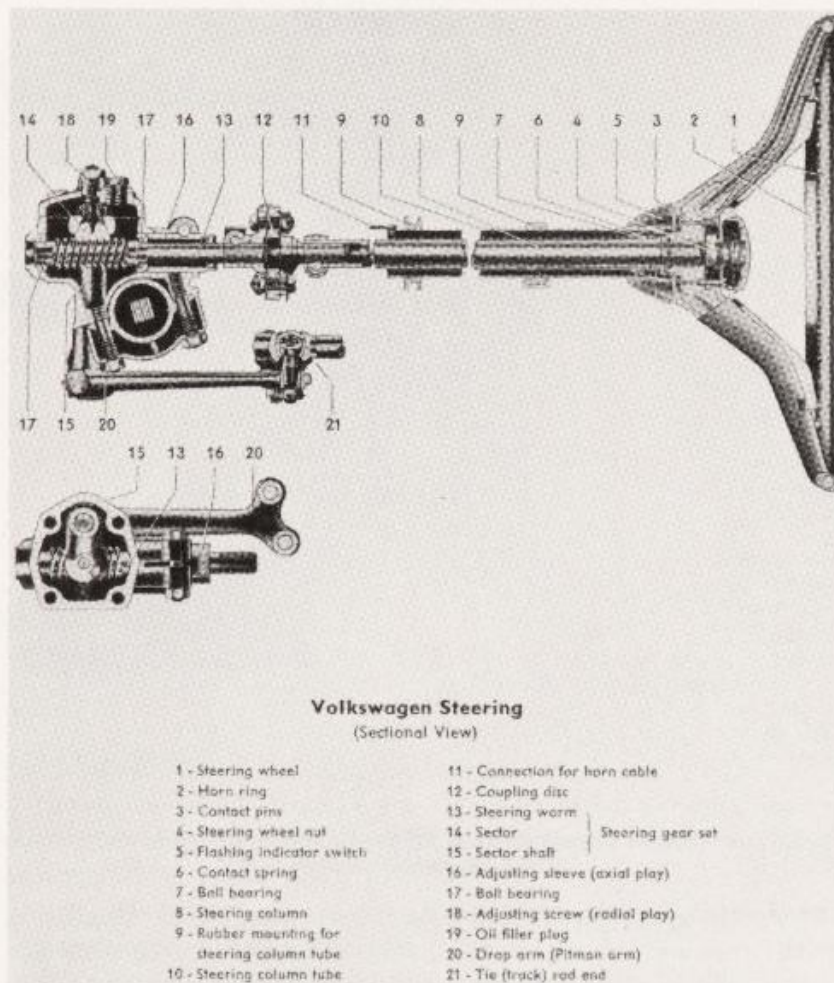

Fig. G-21. Pictured is Volkswagen worm-and-sector type steering gear used in "Beetle" models before August, 1961. Details are called out.
Looseness or free movement of the steering wheel may indicate the need for adjustment. However, the adjustments must never be so tight as to cause any appreciable stiffness or resistance in the gear itself. The gear used on "Beetle" models (prior to August, 1961) is of the worm and sector type, Fig. G-21. Two adjustments are provided; one for the worm shaft and another for the sector shaft.
- 1 - Loosen lock nut and sector shaft adjusting screw, Fig. G-21, No. 18.
- 2 - Loosen adjusting sleeve clamping screw and tighten adjusting sleeve clockwise until worm shaft end play is taken up, Fig. G-21, No. 16.
- 4 - Bring sector shaft arm at a right angle with steering worm. Tighten adjusting screw, Fig. G-21, No. 18, as far as it will go and loosen $1/8$ turn.